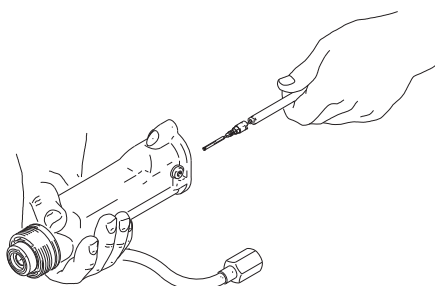

FIG. 32 Fluid Needle Replacement
7. Install the fluid needle assembly in the gun barrel. Push in on the needle with the 2 mm ball end wrench (45) and tighten. See FIGURE 32.
8. Install the spring (5).
9. Install the spring cap (31), making sure the grounding spring (6) is in place. Tighten until snug. **Do not overtighten.**
10. Install the barrel (1), page 43.